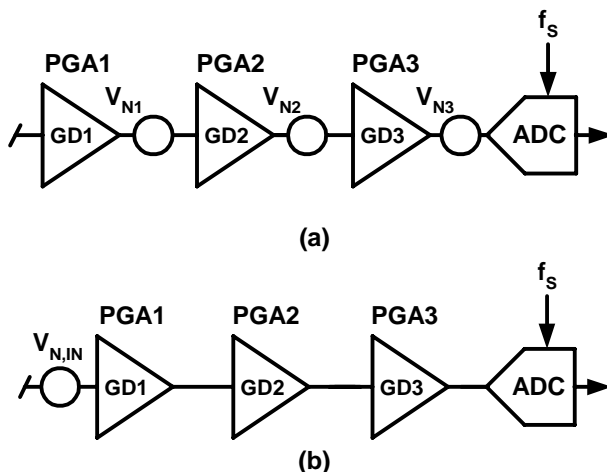
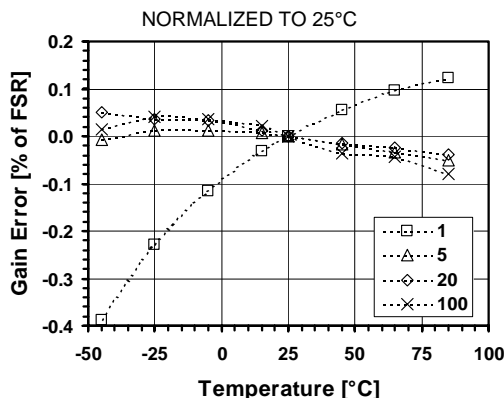

Figure 17-18. (a) Simple noise model for PGAs and ADC
Figure 17-19. Gain error vs. temperature for different PGA gains
- (1) Gain defined as overall PGA gain $GD_{TOT} = GD_1 \cdot GD_2 \cdot GD_3$. Maximum input voltage is given by: $V_{IN,MAX} = \pm(V_{REF}/2) \cdot (OSR/OSR+1)$.
- (2) Offset due to tolerance on $GDOFF_2$ or $GDOFF_3$ setting. For small intrinsic offset, use only ADC and PGA1.
- (3) Measured with block connected to inputs through AMUX block. Normalized input sampling frequency for input impedance is $f_s = 512kHz$. This figure must be multiplied by 2 for $f_s = 256kHz$, 4 for $f_s = 128kHz$. Input impedance is proportional to $1/f_s$.
- (4) Figure independent from PGA1 gain and sampling frequency f_s . See model of Figure 17-18(a). See equation Eq. 21 to calculate equivalent input noise.
- (5) Figure independent on PGA2 gain and sampling frequency f_s . See model of Figure 17-18(a). See equation Eq. 21 to calculate equivalent input noise.
- (6) Figure independent on PGA3 gain and sampling frequency f_s . See model of Figure 17-18(a) and equation Eq. 21 to calculate equivalent input noise.
- (7) Resolution is given by $n = 2 \cdot \log_2(OSR) + \log_2(N_{ELCONV})$. OSR can be set between 8 and 1024, in powers of 2. N_{ELCONV} can be set to 1, 2, 4 or 8.
- (8) If a ramp signal is applied to the input, all digital codes appear in the resulting ADC output data.
- (9) Gain error is defined as the amount of deviation between the ideal (theoretical) transfer function and the measured transfer function (with the offset error removed). (See Figure 17-19)
- (10) Offset error is defined as the output code error for a zero volt input (ideally, output code = 0). For ± 1 LSB offset, N_{ELCONV} must be ≥ 2 .
- (11) INL defined as the deviation of the DC transfer curve of each individual code from the best-fit straight line. This specification holds over the full scale.
- (12) DNL is defined as the difference (in LSB) between the ideal (1 LSB) and measured code transitions for successive codes.
- (13) Figures for Gains = 1 to 100. PSRR is defined as the amount of change in the ADC output value as the power supply voltage changes.
- (14) Conversion time is given by: $T_{CONV} = (N_{ELCONV} \cdot (OSR + 1) + 1) / f_s$. OSR can be set between 8 and 1024, in powers of 2. N_{ELCONV} can be set to 1, 2, 4 or 8.
- (15) PGAs are reset after each writing operation to registers RegAcCf1-5. The ADC must be started after a PGA or inputs common-mode stabilisation delay. This is done by writing bit `START` several cycles after PGA settings modification or channel switching. Delay between PGA start or input channel switching and ADC start should be equivalent to OSR (between 8 and 1024) number of cycles. This delay does not apply to conversions made without the PGAs.
- (16) Nominal (maximum) bias currents in PGAs and ADC, i.e. $IB_AMP_PGA[1:0] = '11'$ and $IB_AMP_ADC[1:0] = '11'$.
- (17) Bias currents in PGAs and ADC set to 3/4 of nominal values, i.e. $IB_AMP_PGA[1:0] = '10'$, $IB_AMP_ADC[1:0] = '10'$.
- (18) Bias currents in PGAs and ADC set to 1/2 of nominal values, i.e. $IB_AMP_PGA[1:0] = '01'$, $IB_AMP_ADC[1:0] = '01'$.
- (19) Bias currents in PGAs and ADC set to 1/4 of nominal values, i.e. $IB_AMP_PGA[1:0] = '00'$, $IB_AMP_ADC[1:0] = '00'$.
The simple noise model of Figure 17-18(a) is used to estimate the equivalent input referred rms noise $V_{N,IN}$ of the acquisition chain in the model of Figure 17-18(b). This is given by the relationship:
Note: see noise model of Figure 17-18 and equation Eq. 21.
Figure 17-19 shows gain error drift vs. temperature for different PGA gains. The curves are expressed in % of Full-Scale Range (FSR) normalized to 25°C.